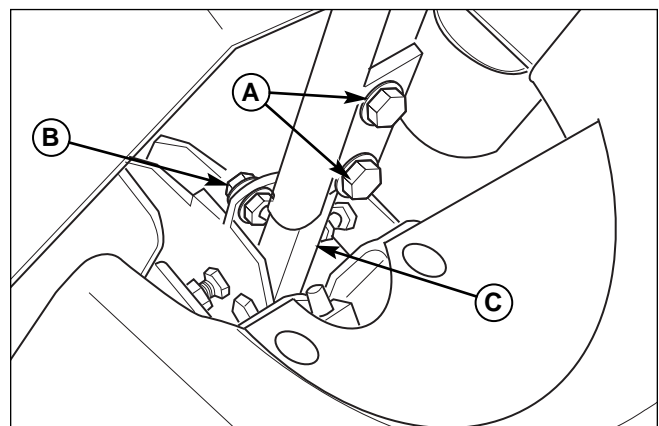

Figure 30. Control Lever Adjustment
Loosen the mount bolts (A, Figure 30) and pivot the lever(s) (C) to align with each other.
Loosen the jam nuts and adjust the placement bolt (B, Figure 30) in or out to properly adjust the lever end spacing.